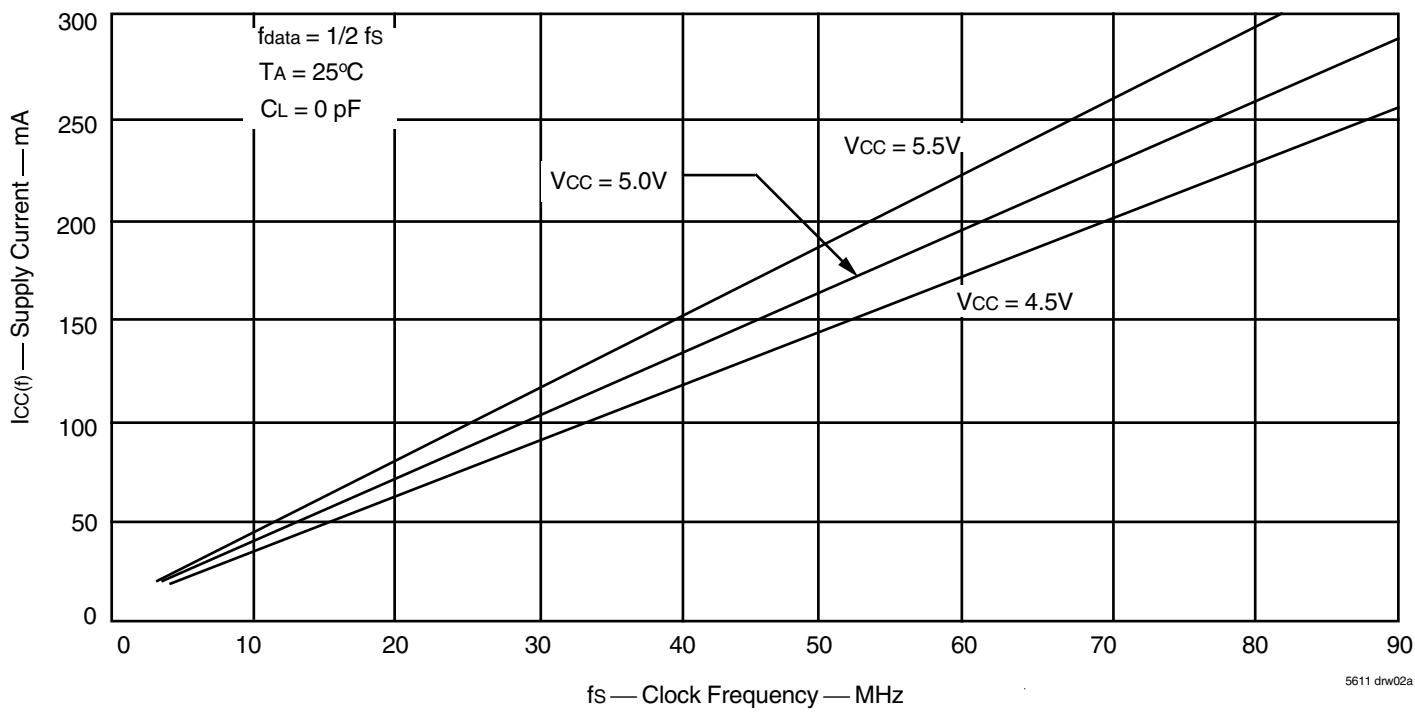

Figure 1. Typical Characteristics: Supply Current ( $I_{CC}$ ) vs. Clock Frequency ( $fs$ )
2. For additional ICC information, see Figure 1, Typical Characteristics: Supply Current (ICC) vs. Clock Frequency (fS).
The  $I_{CC(f)}$  current for the graph in Figure 1 was taken while simultaneously reading and writing a FIFO on the IDT723656/723666/723676 with CLKA, CLKB and CLKC set to  $fs$ . All data inputs and data outputs change state during each clock cycle to consume the highest supply current. Data outputs were disconnected to normalize the graph to a zero capacitance load. Once the capacitance load per data-output channel and the number of these device's inputs driven by TTL HIGH levels are known, the power dissipation can be calculated with the equation below.
With  $I_{CC(f)}$  taken from Figure 1, the maximum power dissipation ( $PT$ ) of these FIFOs may be calculated by: